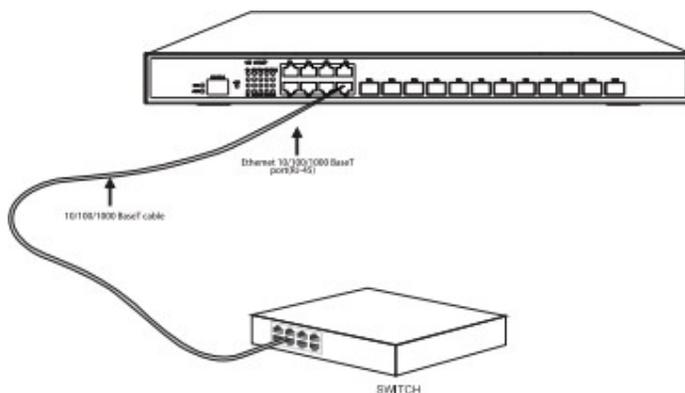

Figure 3-8 Connecting the 1000Base-TX port and other Ethernet terminals
**Caution:** The switch shown in figure 3-8 does not represent the material SFC4200A.